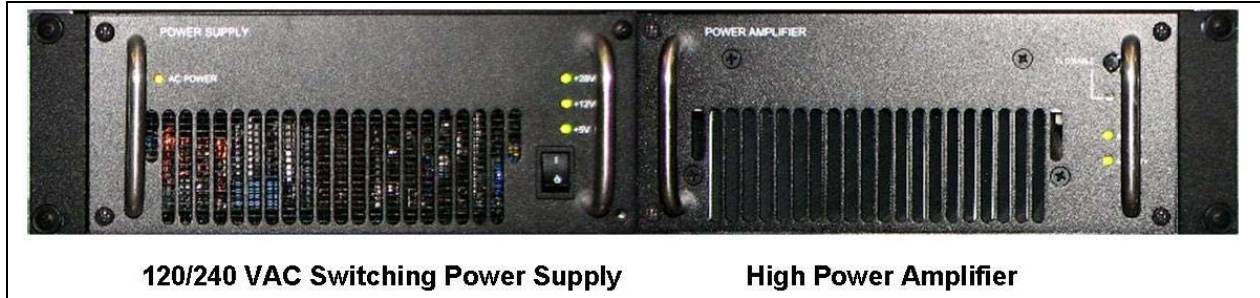

Figure 4-3: MASTR V HPA/PS Shelf Assembly (shown with HPA and PS installed)
The High Power Amplifier (HPA) (refer to Section 4.3.6) and the Power Supply (PS) (refer to Section 4.3.6.1) are installed in a 19” rack mountable, 2-slot metal shelf, model MA-555003 (refer to Figure 4-3). The HPA/PS shelf is a mechanical-only assembly with no electrical components.